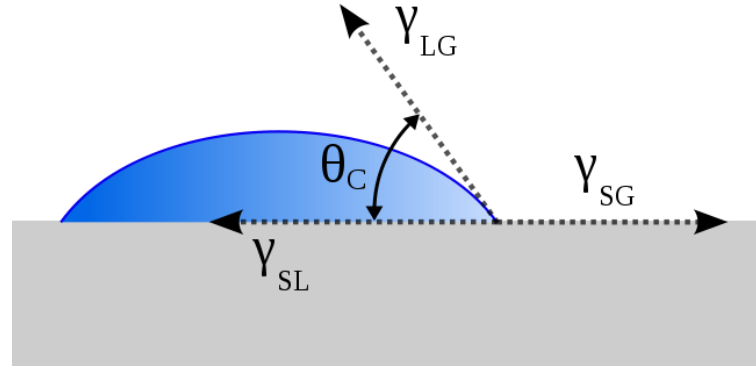

Figure 1: Contact angle and interface energies
In figure 1 above, we see the contact angle of a droplet which will represent our phase. γ_{SL} denotes the solid liquid energy, γ_{SG} the solid vapor energy and γ_{LG} the liquid vapor energy, i.e. the surface tension. This is governed by youngs equation (3) which will be satisfied at equilibrium.